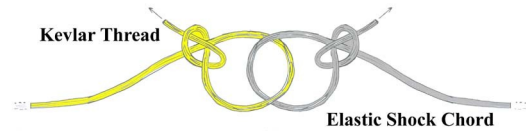

Figure 9
- **Step 15** Tie a slip knot in the free end of the Kevlar thread, as shown in Fig. 9. Insert one end of the elastic shock chord through the loop and tie a slip knot in it, then pull the two knots tight against each other. Apply a layer of thinned glue to the knot to secure it. Let this dry, then attach the barrel end of the remaining snap link to the free end of the elastic chord.